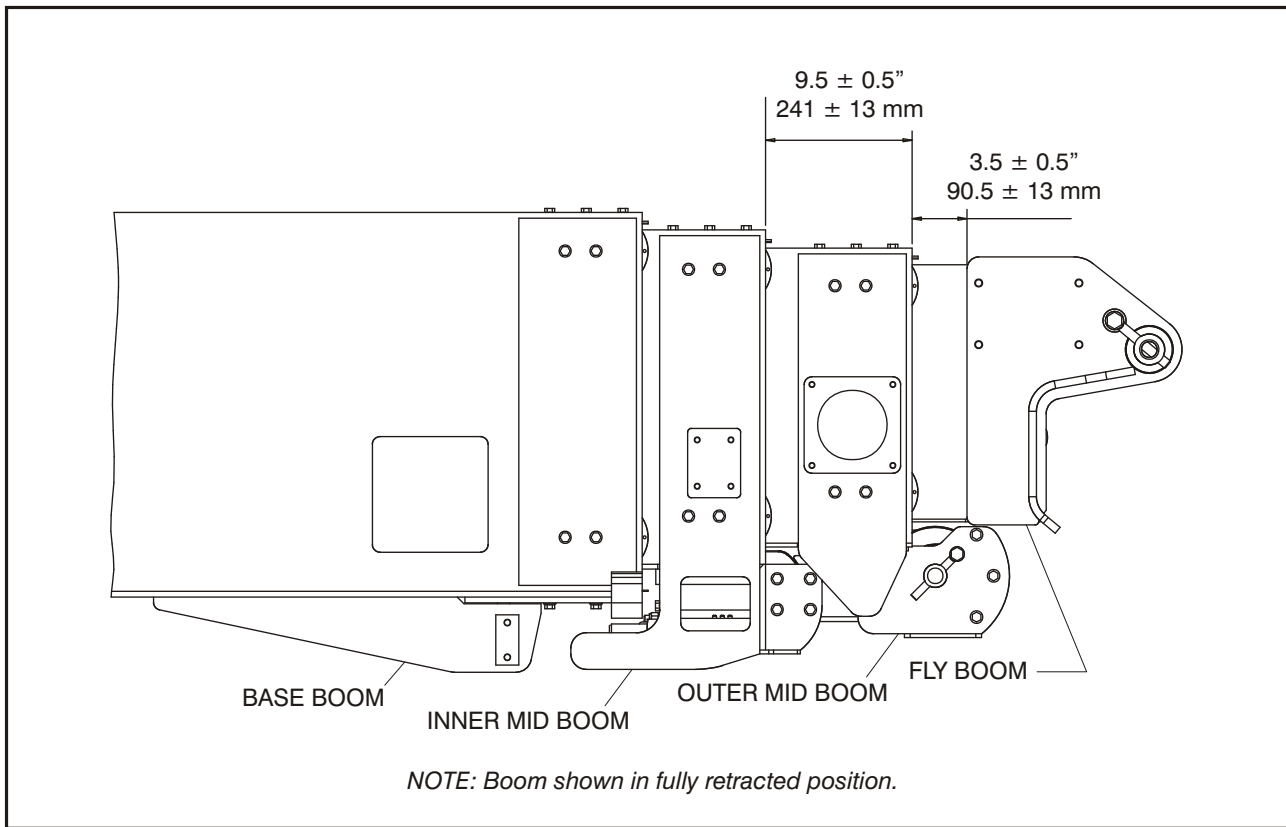

Figure 4-30. Wire Rope Tensioning
Before adjusting wire rope tension, the boom sections must be in the proper position as shown in Figure 4-30., Wire Rope Tensioning. This is so the wire ropes are equalized on both sides of the sheaves and are seated properly in the sheave grooves. This is necessary for proper tensioning of the wire ropes.
3. Take preliminary measurements of the position of each boom section and compare them to Figure 4-30., Wire Rope Tensioning. If the measurements fall within the tolerances in the figure, proceed to Wire Rope Tensioning in this section.
If the measurements do not fall within the tolerances in Figure 4-30., Wire Rope Tensioning, adjust the booms using the re-positioning procedures that follow.
If the Outer Mid Boom falls within the dimension and tolerance of Figure 4-30., Wire Rope Tensioning, proceed to the Fly Boom Section Positioning procedure in this section. If the Outer Mid Boom section is outside of the tolerance as shown, perform the following procedure.
7. Verify that the exposed boom section dimensions meet the dimensions and tolerances of Figure 4-30., Wire Rope Tensioning.
- a. If the Outer Mid Boom still does not fall within the dimension and tolerance of Figure 4-30., repeat the Outer Mid Boom positioning procedure.
- b. If the Outer Mid Boom falls within the dimension and tolerance of Figure 4-30., proceed to the Fly Boom Section Positioning procedure in this section.
NOTE: Because the Outer Mid Boom is used to control the movement of the Fly Boom, any repositioning of the Outer Mid Boom Section will also affect the position of the Fly Boom section. After repositioning the Outer Mid Boom, always check the Fly Boom position per Figure 4-30.
If the Fly Boom section location and the Outer Mid Boom section location are both within the dimensions and tolerances in Figure 4-30., proceed to the Wire Rope Tensioning Procedure in this section.
If the Fly Boom section is outside of the tolerance as shown in Figure 4-30. while the boom assembly is fully retracted, perform the following procedure:
5. Verify that the exposed boom section dimensions meet the dimensions and tolerances of Figure 4-30., Wire Rope Tensioning.
- a. If the Fly Boom still does not fall within the dimension and tolerance of Figure 4-30., repeat the Fly Boom Section Repositioning procedure.
- b. If the Fly Boom falls within the dimension and tolerance of Figure 4-30., proceed to the Wire Rope Tensioning Procedure.
NOTE: Verification of the rope tension should be determined by proper function of the boom assembly and by the dimensions and tolerances of Figure 4-30., Wire Rope Tensioning.